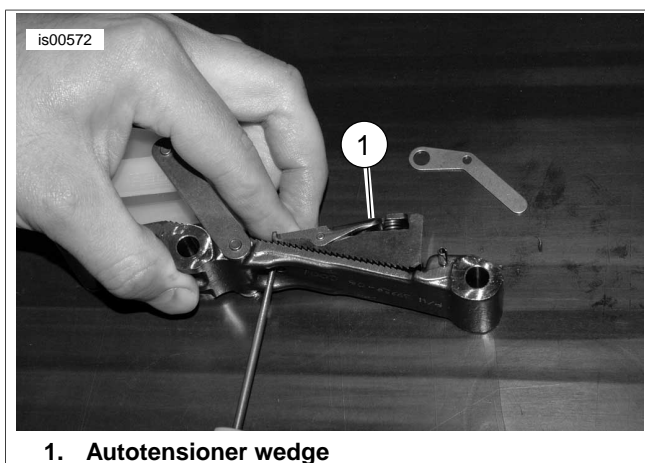

Figure 5. Reset Autotensioner Spring and Wedge
1. See Figure 5. Compress autotensioner wedge (1) and spring back to the base.